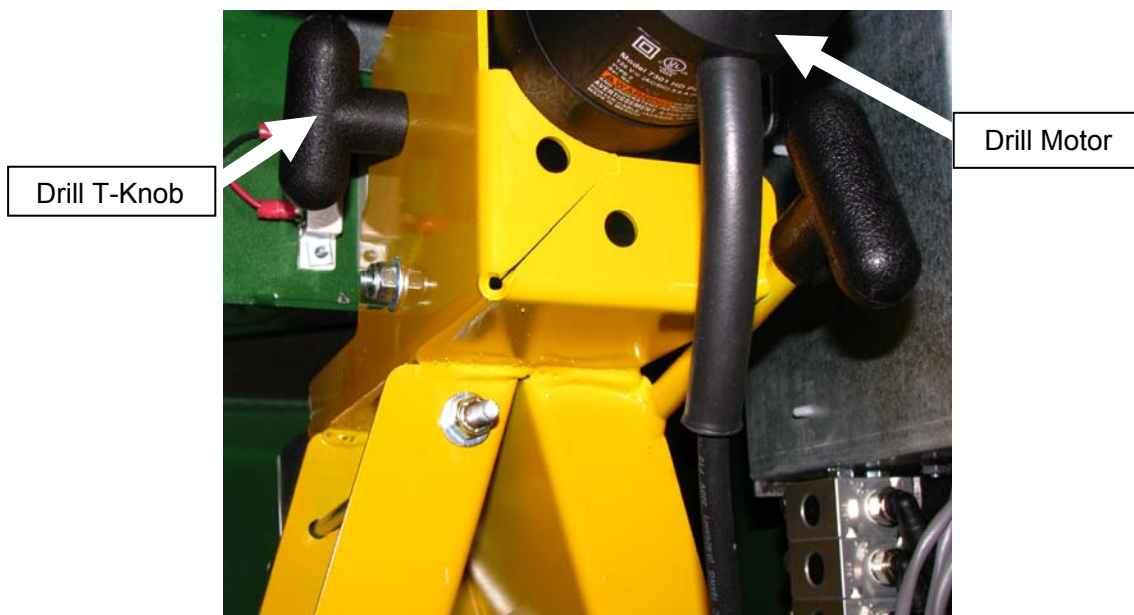

Fig 15
2. The Drill Motor is mounted on top of the yellow Motor Carriage. **See Fig 15.**